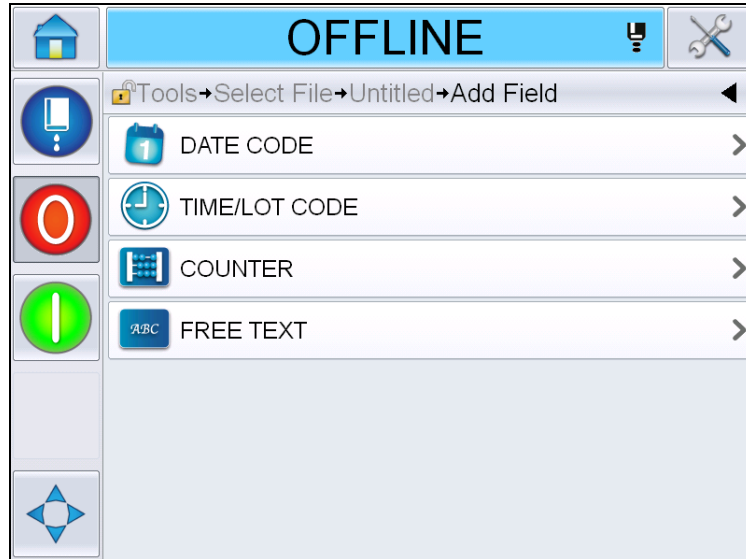

Figure 5-24: Add Field Page
- 3 Touch . Displays the *Add Field* Page (Figure 5-24 on page 5-31).